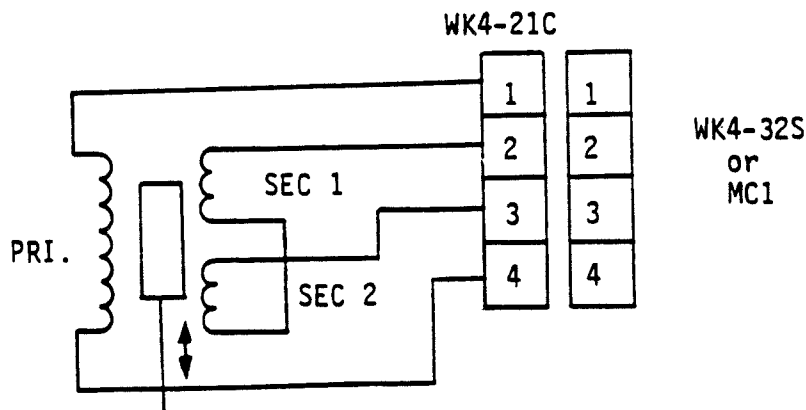

Figure 3-3. Transducer Connections for LVTD Operation.
A. Connect transducer as shown in Figure 3-3. Position jumper E1 (2-ARM/4-ARM jumper) to the 2-ARM position. If output voltage is greater than 166 mV/V, place jumper E3 (VAR REL. STR. GAGE/LVDT INPUT jumper) in the B position. For inputs less than 166 mV/V place jumper E3 in the A position.